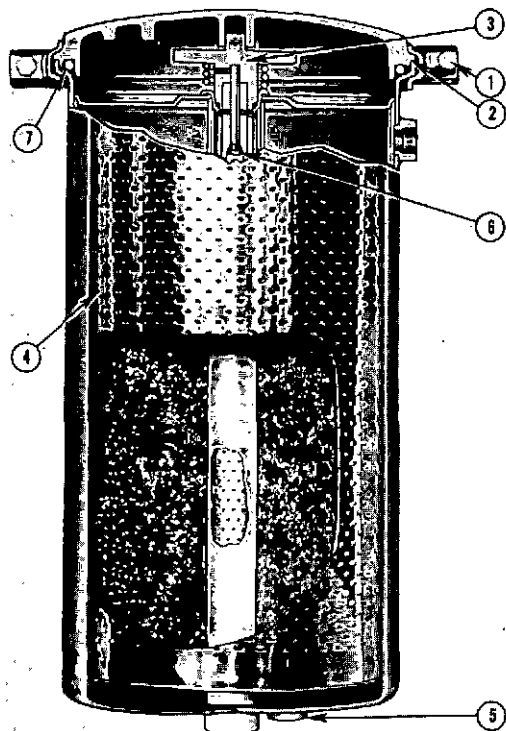

Fig. 2-14 (V41908) By-Pass filter cross section
1. Remove drain plug (5, Fig. 2-14) and drain oil.
2. Remove clamping ring capscrew (1) and lift off cover.
3. Unscrew support hold-down assembly (3); lift out element (4) and hold-down assembly. Discard element.
7. Check orifice plug (6) inside oil outlet connection or standpipe; blow out with air to open and clean.
8. Check filter cover "O" ring (7). Replace if necessary.